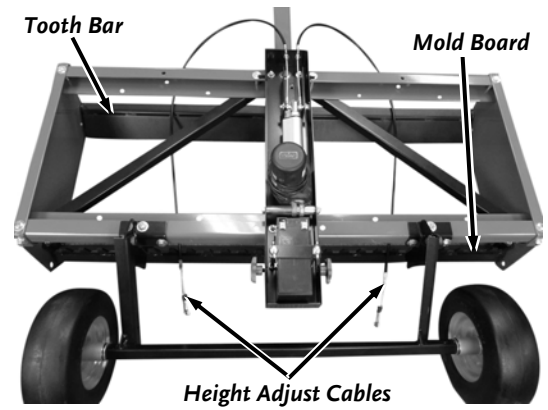

Figure 21
34. Route the Height Adjust Cables back under the Crossmembers towards the rear of the Frame. Ensure the Cables are on top of the Tooth Bar and Mold Board (**Figure 21**).